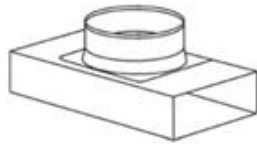

figure 1
2. Connect the recirculation kit (fig.1) to the opposite opening of the exhaust hose (fig.2).